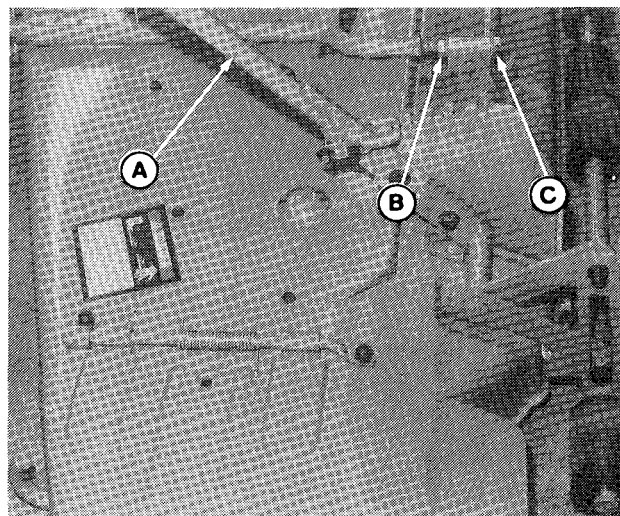

Figure 10.
4. Loosen the jam nut (B, figure 10) on both rods (only one shown). Turn the bolt (C) in to raise front of mower or out to lower front of mower. Be sure to adjust both sides equally.
5. When measurement is correct, tighten the nut (B) securely while holding bolt (C).